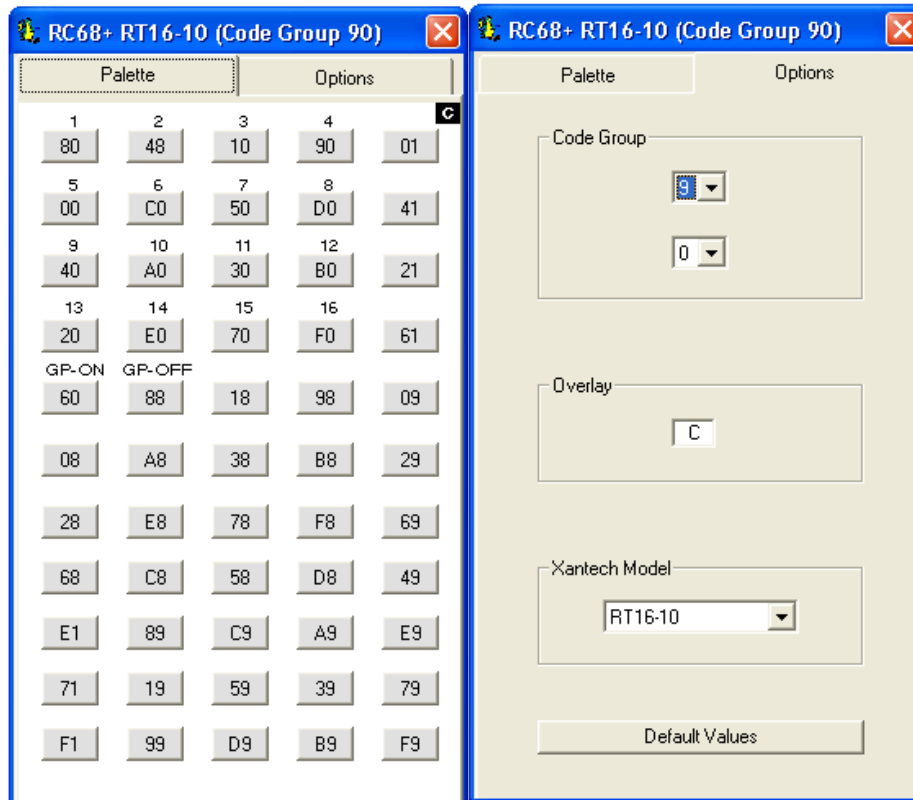

Figure 7: Selecting RC68+ Palette
1. Move the configuration jumper to the RS232 selection position located under the Configuration-Setup Access Panel. See **Figure 7**.
- e. Change the CODE GROUP to **90** as shown in **Figure 7** above. (Overlay should be selected to **C**)